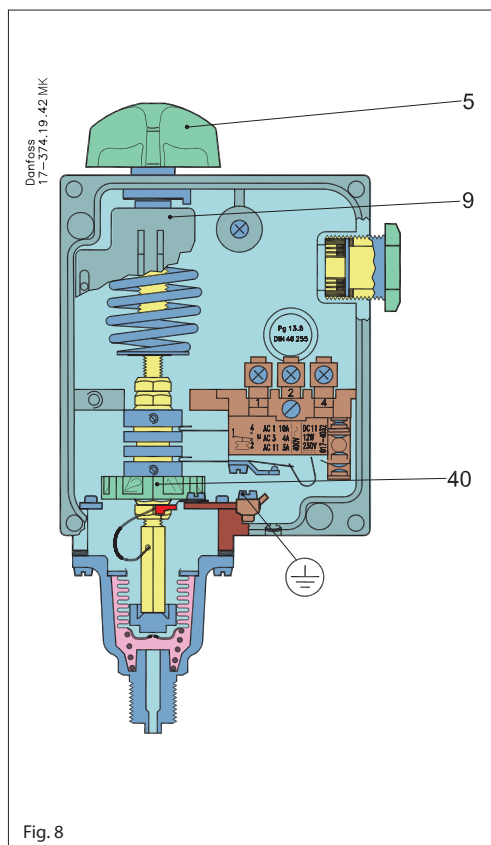

Fig. 8
The range is set using the setting knob (5) fig. 8 while reading the range scale (9). The pressure set is the break pressure for contacts 1-4 (see fig. 13).
The RT 200L must be set using the setting knob (5) fig. 8 page 9 at 3.5 bar (35 m wg) minus the fixed differential of 0.2 bar.
The neutral zone, $35 - 32 = 3$ m wg, corresponding to 0.3 bar, must be set on the neutral zone disc (40) fig. 8 page 9. According to the diagram fig. 12 the disc setting is 1 or just over. A more accurate setting can be obtained by using the test setup shown in fig. 14.